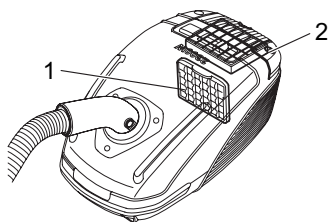

Fig. 29
- Protective motor filter (Fig. 29/1)
- Hygienic blow-out filter (Fig. 29/2)